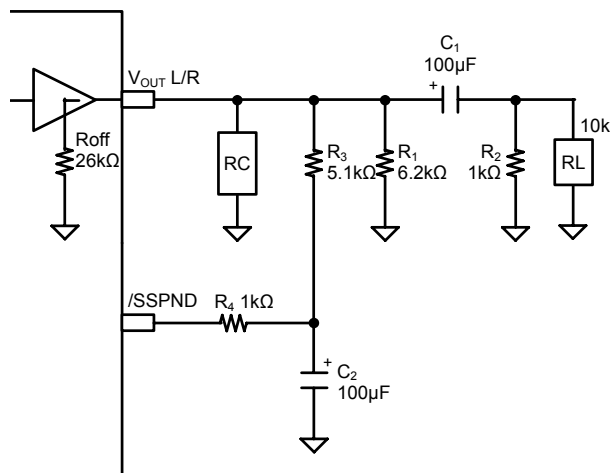

Figure 3
8.3 Example1 of Restart Wait Time Reduction (Fig. 3)
The application example similar to Figure 3 case in which wait time for restart and numbers of parts are reduced as compared with Figure 3 case.